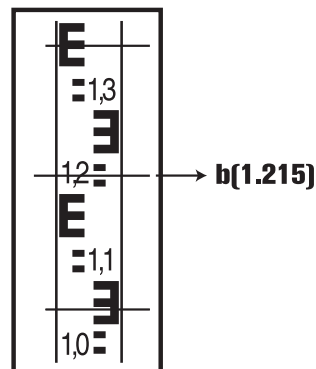

Fig.4
3. Erect the leveling rod to the point of B vertically, focus the instrument against the leveling rod and adjust the crosshair to match the center of leveling rod, record the height value b of the leveling rod at the center line of crosshair. (see Fig.4)